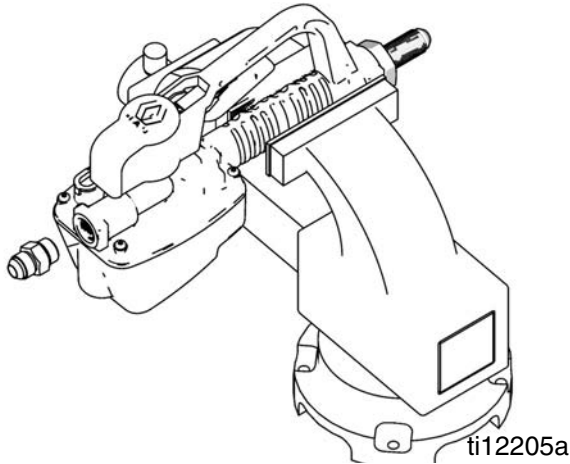

FIG. 6
6. Install fitting (4) in meter outlet (FIG. 6). Snug fitting with a wrench.